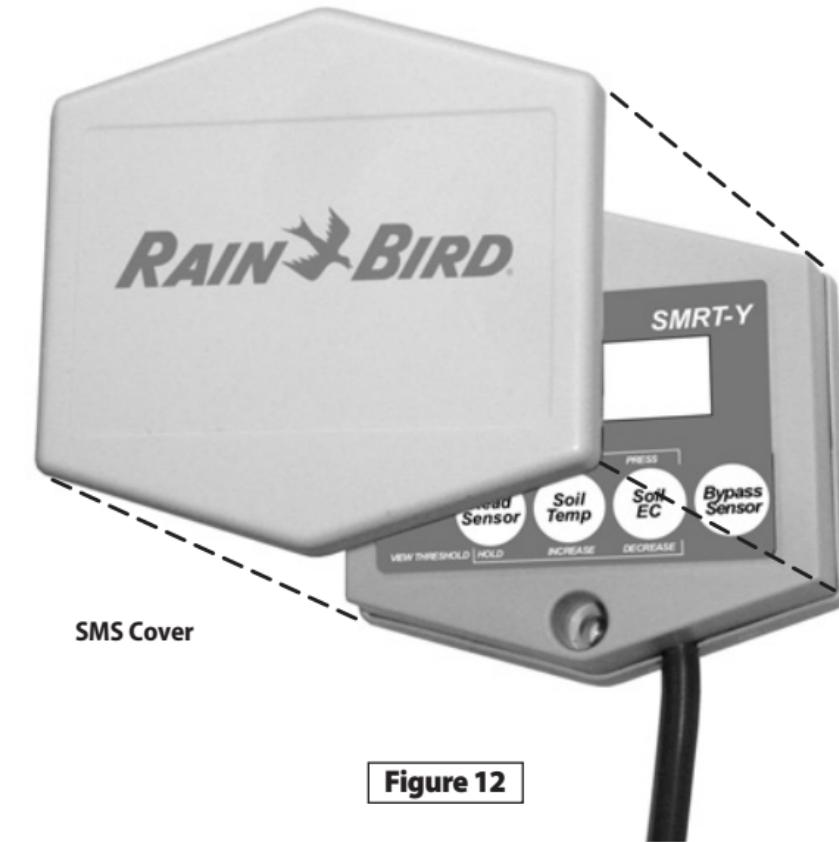

Figure 12
4. Long-term exposure to direct sunlight could damage the SMRT-Y LCD display. Use the protective cover (see Figure 12) when installed in direct sunlight.